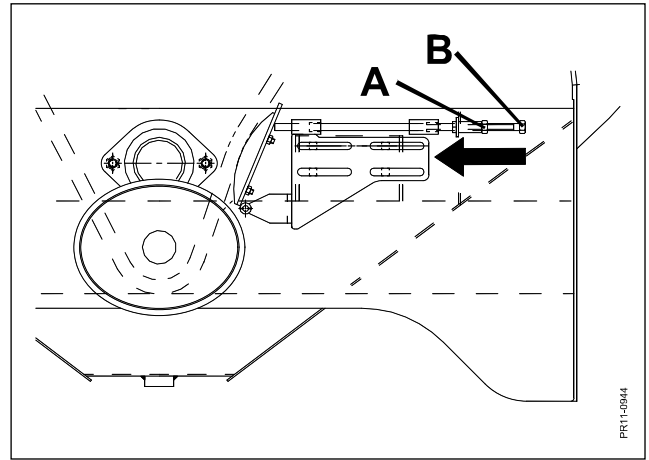

Fig. 9.7
Fig. 9.7 Tightening of 1" chain: the counter nut (A) is loosened and the chain is tightened by tightening the bolt (B). Be careful not to tighten the chain too much.